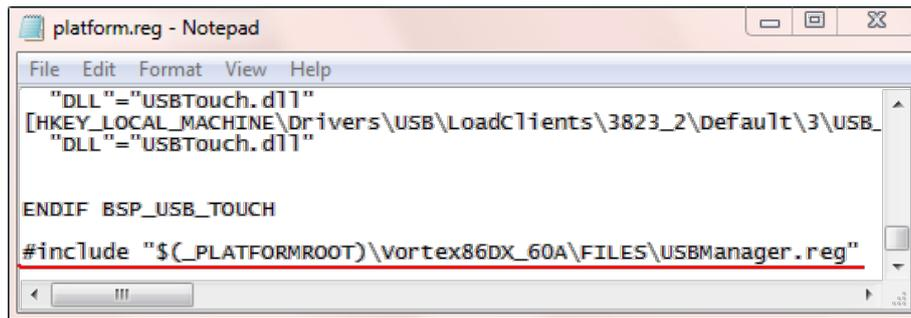

Figure 2-2
**Note:** TARGETBSP is the actual BSP directory. Figure 2-2 shows an example.